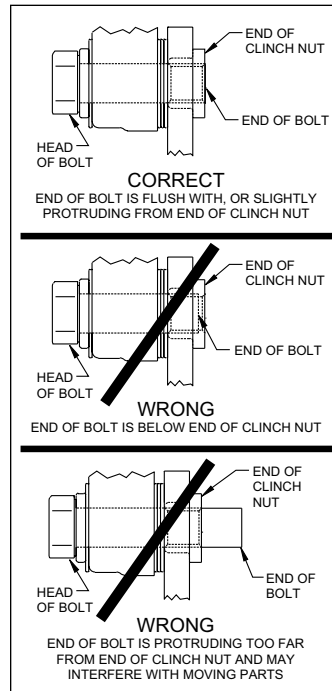
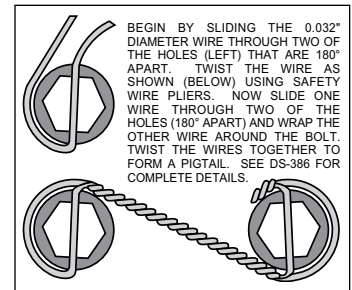

Figure 4. Clinch Nut Engagement Diagram
Figure 5. Safety Wire Diagram
CAUTION: All mounting bolts must fully engage clinch nuts. Be sure to check that all bolts are either flush or protruding through flanged side of clinch nut after shimming, Figure 4.
STEP 4 Align the correct hole pattern in the hat (2) with the axle stud pattern and slide the hat/rotor assembly onto the axle hub. **NOTE:** The hat must fit flush against the axle flange or excessive rotor run out may result. Install three lug nuts (finger tight) to keep the hat/rotor in place while continuing with the installation, Photo 5.
STEP 5 NOTE: Please reference the caution statement at the beginning of the assembly instructions. Mount one caliper (6) onto the mounting bracket (1) using bolts (7) and washers (8), as shown in Figure 1. Initially place two .035" thick shims (9) on each bolt between the caliper and the bracket, Photo 6. Temporarily tighten the mounting bolts and view the rotor (4) through the top opening of caliper. The rotor should be centered in the caliper, Photo 7. If not, adjust the caliper by adding or subtracting shims (9) between the bracket and the caliper. Always use the same amount of shims on each of the two mounting bolts. **NOTE:** The end of each bolt must be flush with or slightly protruding from the head of the clinch nut. If necessary, place spare shims between washer and caliper mounting ear to achieve the proper clinch nut engagement, as shown in Figure 4. Once the caliper alignment and clinch nut engagement are correct, remove the bolts (7) one at a time, apply red *Loctite*® 271 to the threads, and torque to value shown in Figure 1. For an added measure of security, the bolts may be safety wired using standard 0.032 inch diameter stainless steel safety wire as shown in Figure 5. Please refer to Wilwood's data sheet DS-386 (available at www.wilwood.com/Pdf/DataSheets/ds386.pdf) for complete safety wire installation instructions. Repeat this procedure for the second caliper.